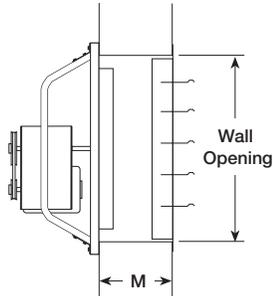

Figure 3 - Direct to Wall Installation
**Figure 3** shows the recommended wall opening and the minimum distance (M) suggested between the fan and damper for direct to wall installations.